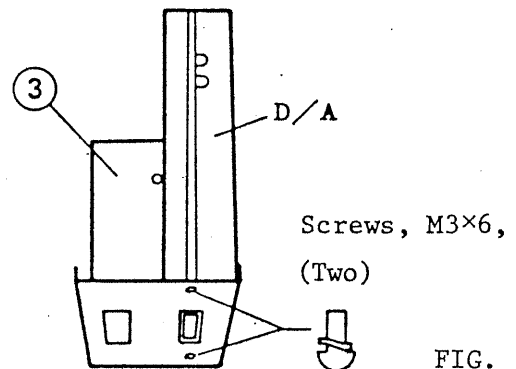

FIG. 5
2) Fix the D/A converter to D/A bracket (3). (See Figure 5)